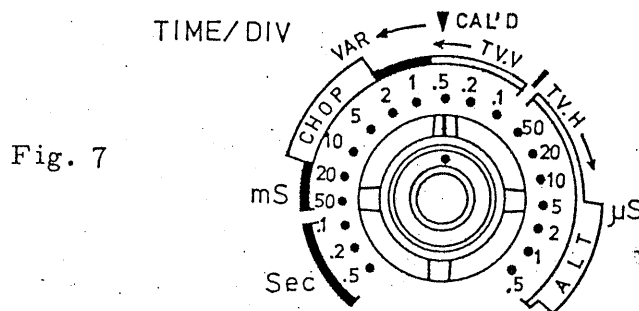

Fig. 7
The Model 5512A has no individual push button for CHOP and ALT modes but has the DUAL button (11) only. In fact, sweep mode selection is linked with the TIME/DIV switch. The sweep circuit operates in the CHOP mode for 1ms or less 1ms/DIV and in the ALT mode for 0.5ms/DIV or more as shown in Fig. 7.